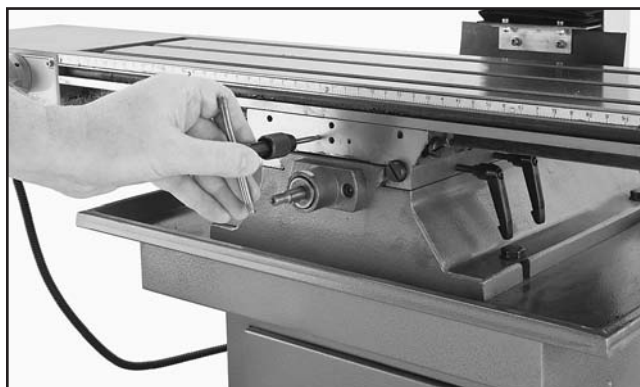

Figure 15. Tapping holes for limit switch assembly.
15. Using an M4-.7 tap drill, tap the holes drilled in **Step 14**, as shown in **Figure 15**.